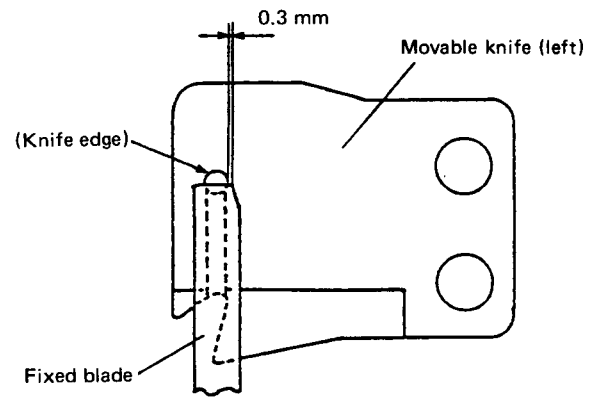

Fig. 5
(1) Fig. 5 shows the standard state.
(2) If the dimension indicated in Fig. 5 is too large, three-thread breakage will occur, leading to needle thread cast-off, etc. after the thread trimming. Reversely, if the dimension is too small, thread trimming error may result. Therefore, caution must be exercised.
(3) Make the adjustment in (2) in the installation procedure of fixed blade bracket unit or in the installation procedure of fixed blade.